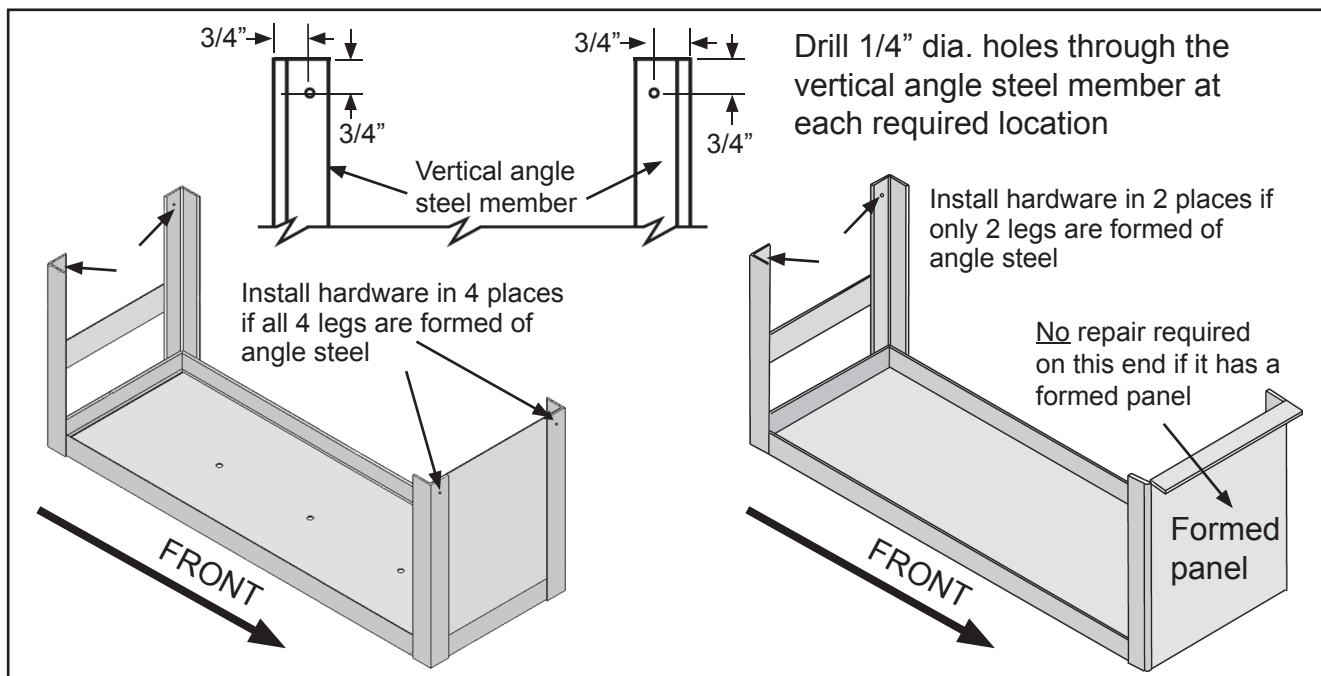

Figure 2
- b) If the battery tray has 2 or 4 vertical members composed of angle steel as shown in **Figure 2**, continue to CORRECTION, Step 5, next page.
5. Locate the upper corners of the battery tray's vertical angle steel members. Using **Figure 2** on Page 2 as a guide, drill a 1/4" diameter hole through the vertical angle steel and the chassis structural steel, in each required location.